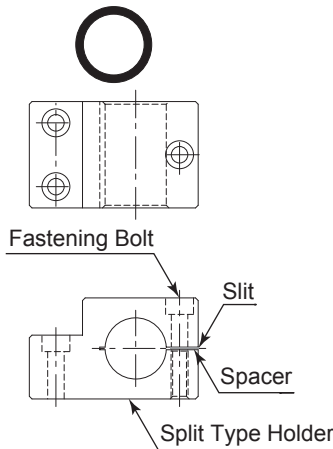
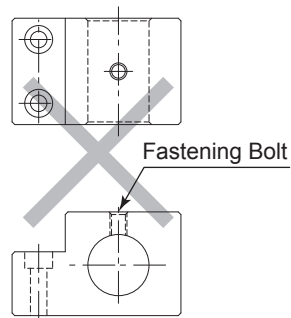
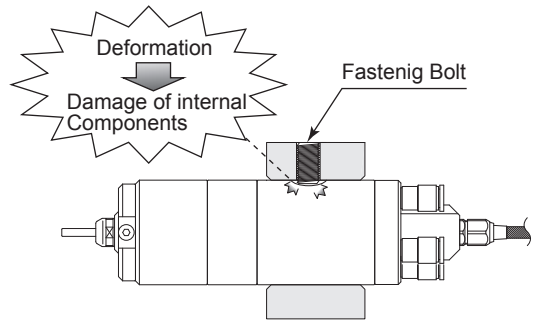

Fig. 5
Fig. 6
Fig. 7
- (3) When installing an Air Bearing Turbine Spindle to a holder, the recommended installation method is shown Fig. 5. Refer to " (4) How to fabricate a Split Type Holder ".
Do not allow set screws to come directly in contact with the Air Bearing Turbine Spindle body as shown in Fig. 6, as this will result in damage to the Air Bearing Turbine Spindle housing and internal components. When installing, never clamp directly over the bearings, as this will result in bearing damage. (Refer to Fig. 7)
- Be sure to install a proper piping system (refer to Fig.5 and Fig.6) for a clean and dry air supply to the Air Turbine Spindle.